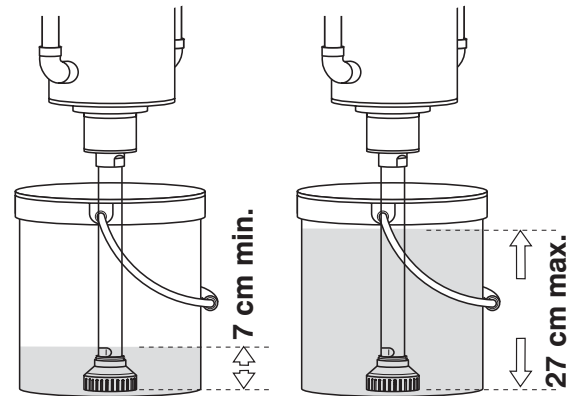

figure 7
**Observe the minimum and maximum levels (fig.7)**